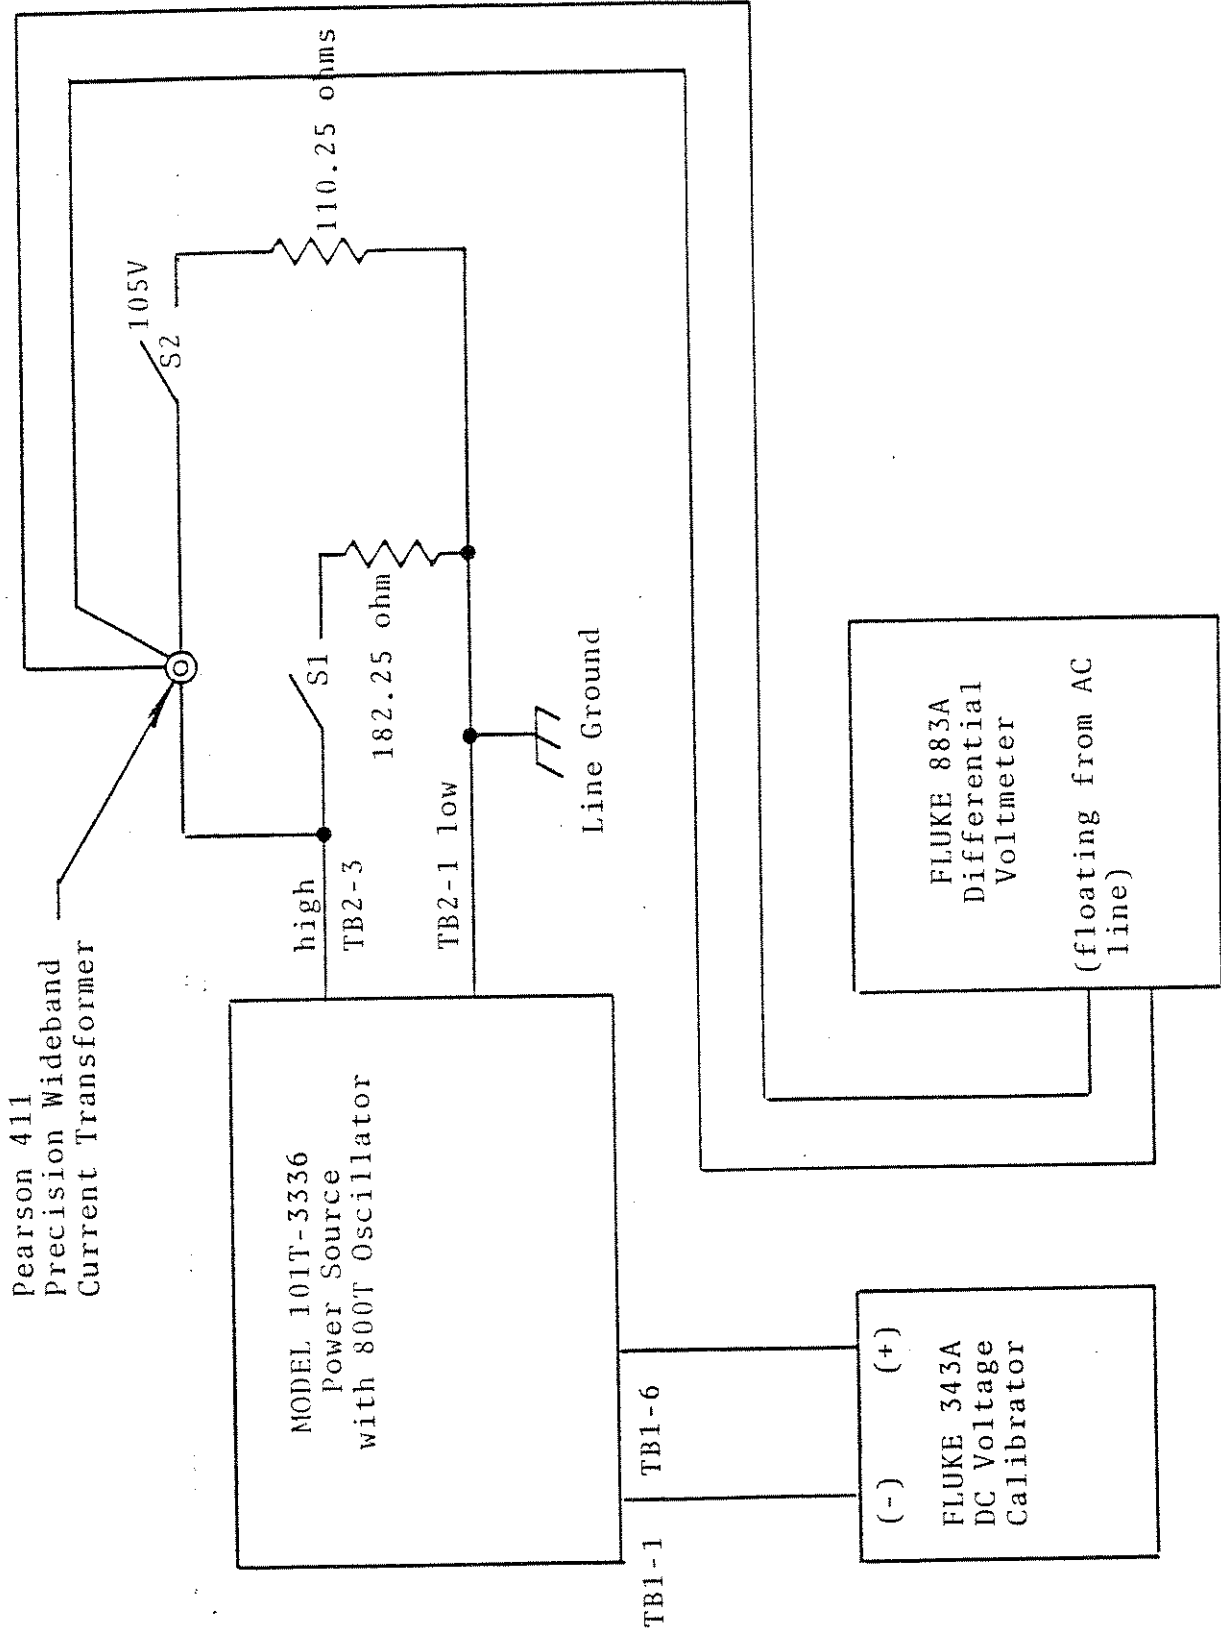

FIGURE 4-1
- 2) If not already accomplished, connect the power source and test circuits as shown in Figure 4-1.